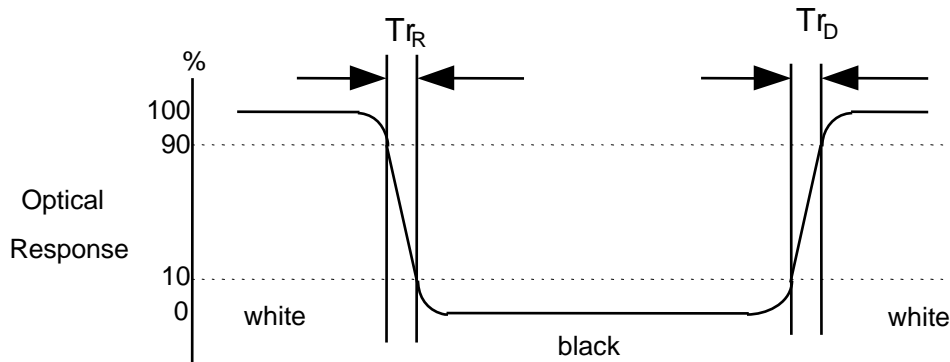

FIG. 4 Viewing angle
3. Viewing angle is the angle at which the contrast ratio is greater than 10. The angles are determined for the horizontal or x axis and the vertical or y axis with respect to the z axis which is normal to the LCD surface. For more information see FIG 4.